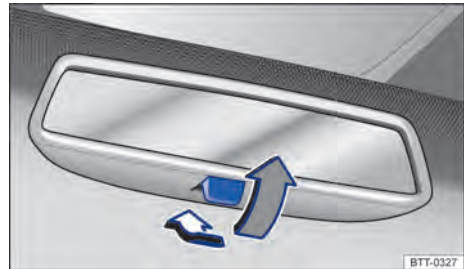

Fig. 77 On the windscreen: manual anti-dazzle interior mirror.
- Night position: pull the lever → Fig. 77 (grey arrow), to avoid glare from the headlights of vehicles travelling behind.